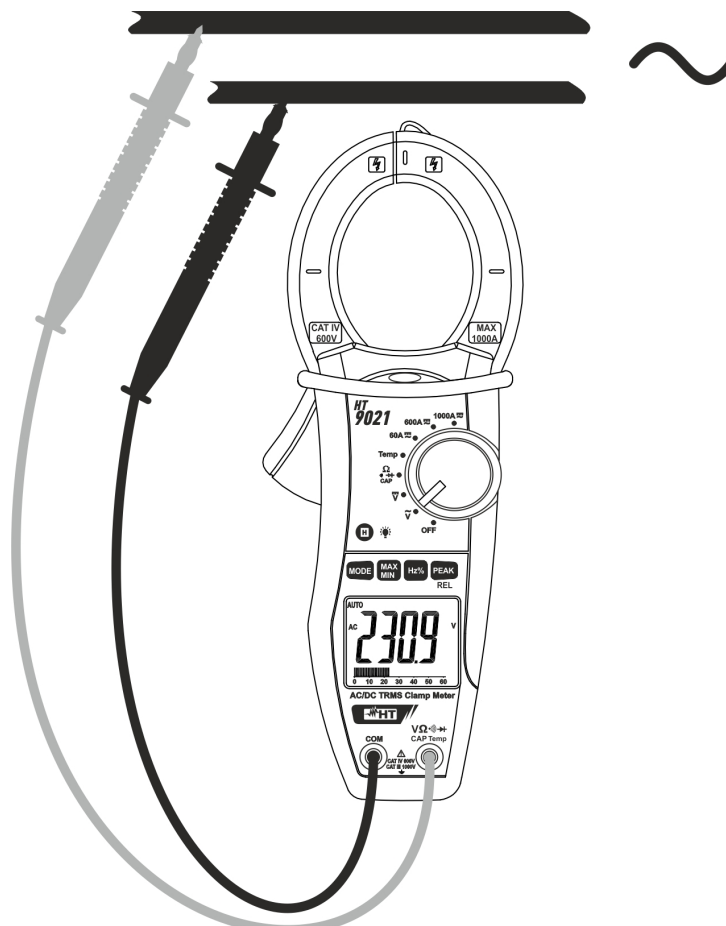

Fig. 3: Taking AC voltage measurements
3. Insert the red test lead plug into  $V\Omega$   $\rightarrow$  CAP Temp jack and the black test lead plug into COM jack (Fig. 3)